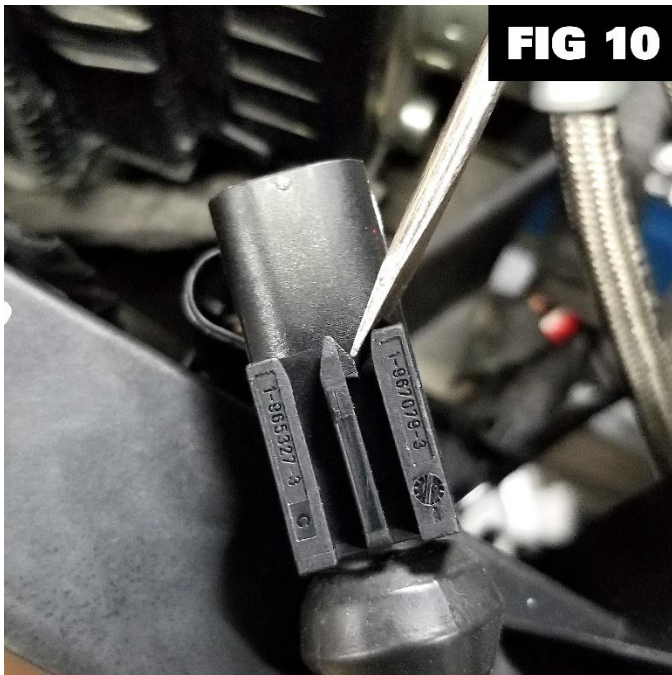

FIG 10
35. Remove voltage regulator mounting plate (it will not be reused), unplug the main 40-amp fuse holder and small fuse box holder from the frame **(FIG 10)** to release locking tabs.